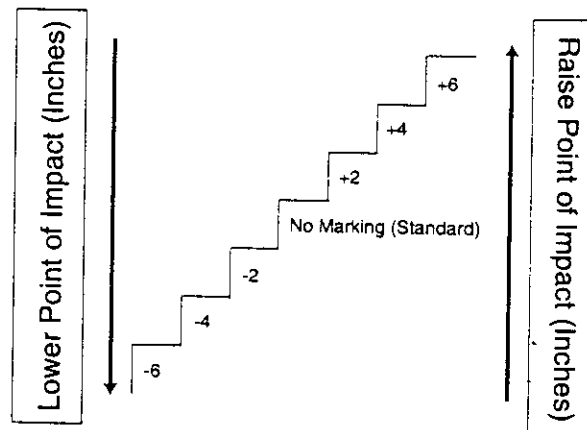

Figure 25
f. Select a higher or lower rear sight from Figure 25 below.
Figure 25 shows that the rear sight marked -4 would lower the point of impact to 4 inches, or a total of 4 inches, from the standard unmarked rear sight removed from the pistol.